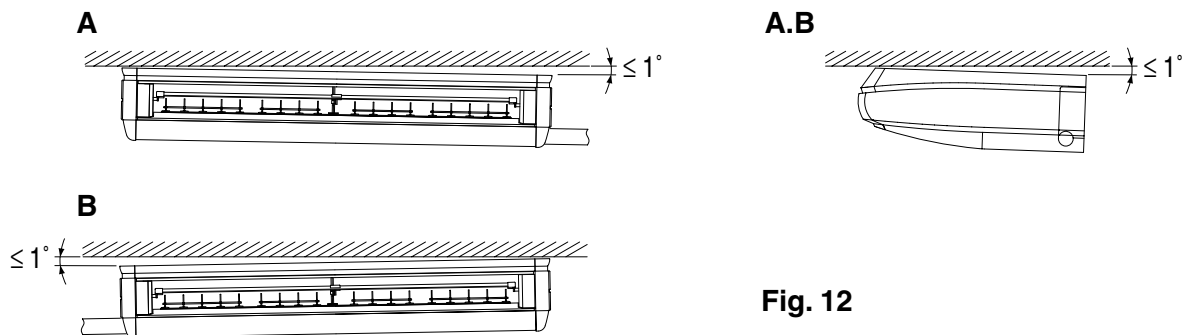

Fig. 12
(5) When hanging the indoor unit, make sure to use the level to have better drainage and install it horizontally. Also, if it is possible at the installation site, install so that the drain piping side is slightly lower. (Refer to Fig. 12)
- **Do not insert materials other than that specified into the clearance between the hanger and the washer for hanger (3).**